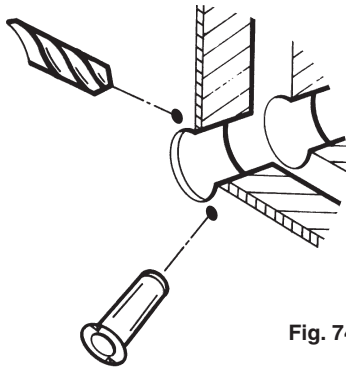

Fig. 74
8. Drill and plug the wall in these positions (Fig. 74).